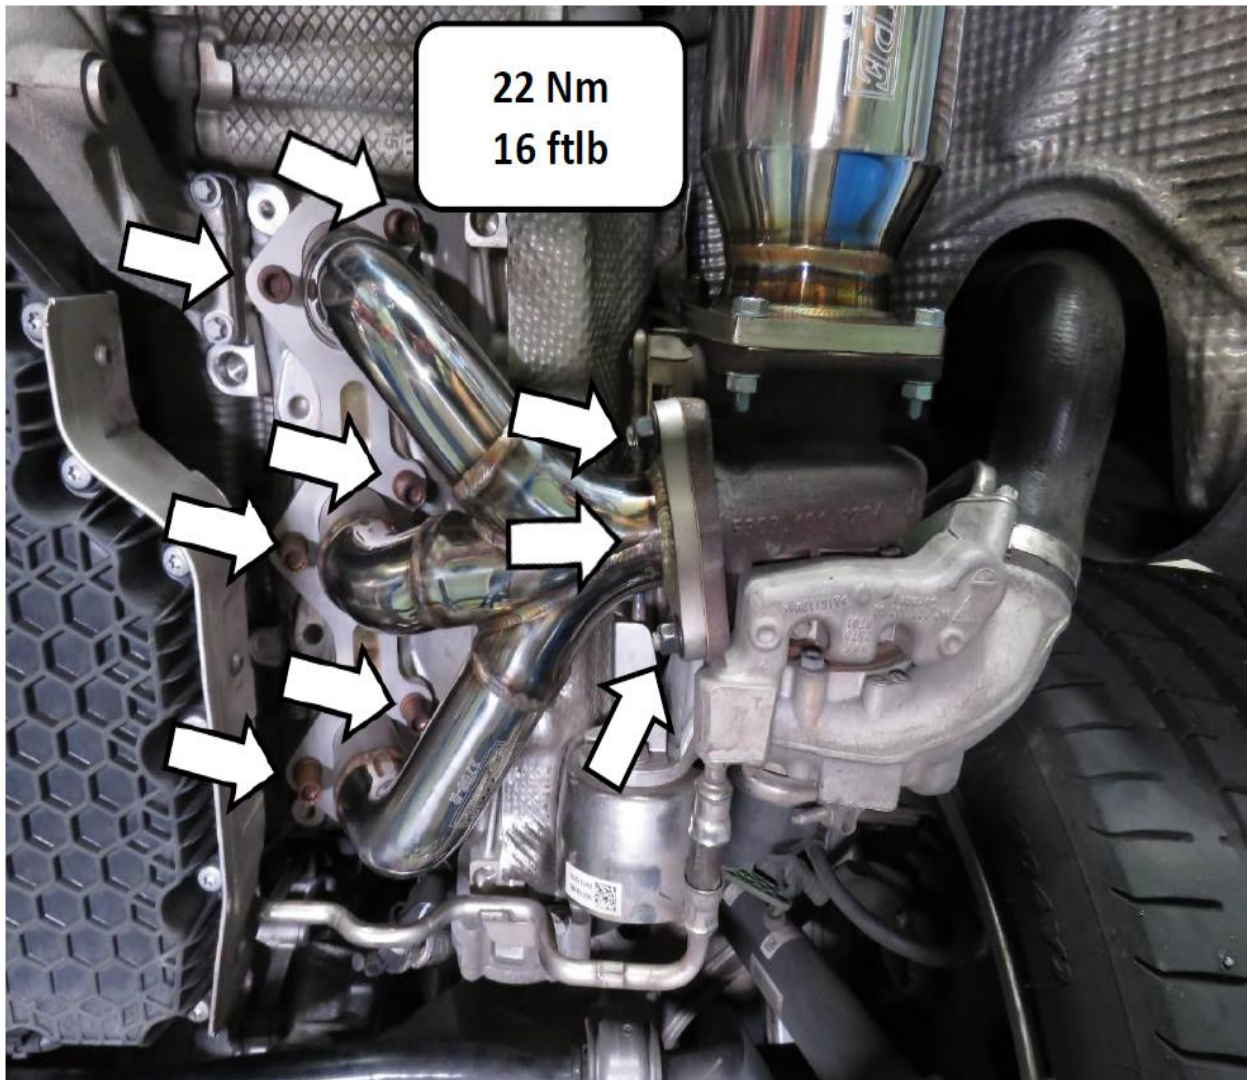
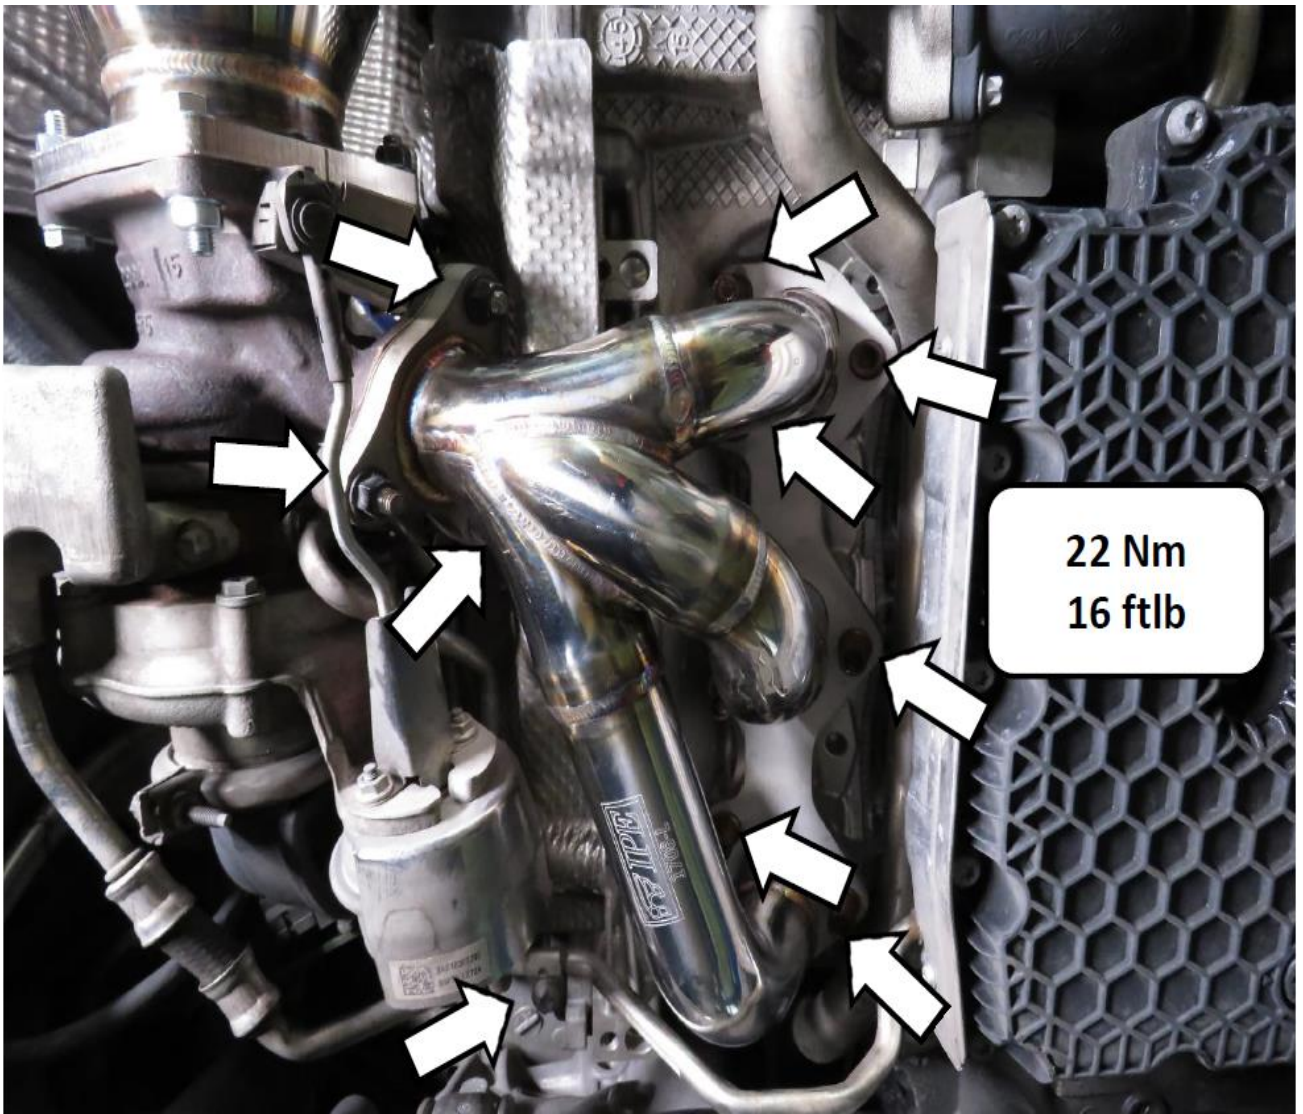

figure 5
figure 6
1. Install the iPE exhaust manifold to the positioning (Figure 5, Figure 6)